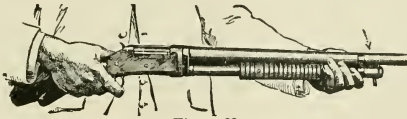

Figure 22.
*To take apart* the "Take Down" shotgun, push out the magazine locking pin (the large pin found at the front end of the magazine, which pin answers as a lever to unscrew the magazine), and unscrew the magazine one-quarter turn. Pull the magazine and action slide forward and, grasping the barrel and magazine just ahead of the receiver extension, and holding the action slide forward, unscrew the barrel one-quarter turn, the magazine turning with the barrel. Pull out the barrel from the receiver, Figure 22.